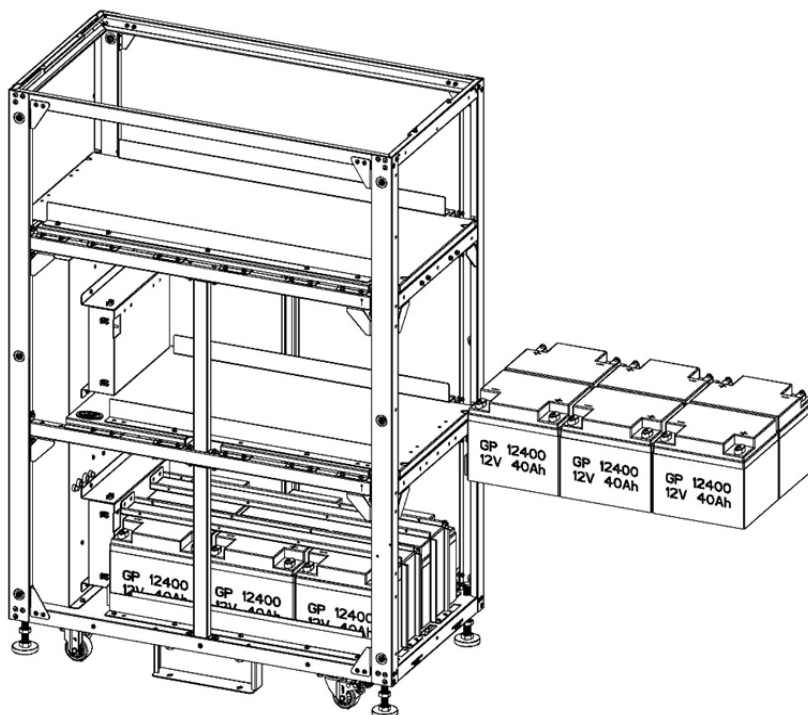

Figure 5-37
5. Reinstall layer 1 battery retention brackets and screws (Figure 5-37).
6. Install 6 battery packs to layer 2 (Figure 5-37).